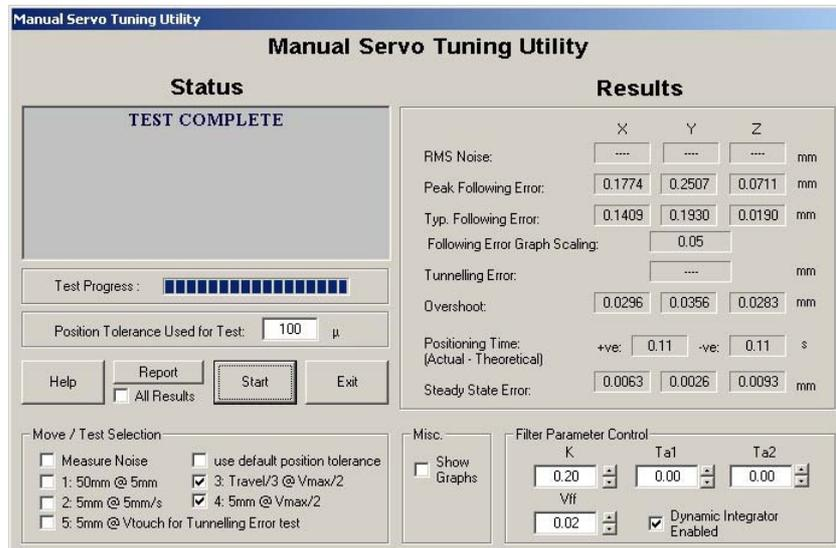

Figure 19
5. Increasing Vff further will reduce following error, however if too much is applied overshoot will increase to excessive levels and the machine may become unstable whilst performing the point to point moves. Some experimentation in the Vff value will be required. Figure 19 below shows the effect of applying too much Vff. Although the following error has reduced to a low value the amount of overshoot has increased significantly.